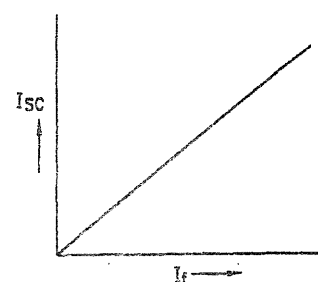

FIG. 4.66 : SHORT CIRCUIT CHARACTERISTIC
- Graph of short circuit current v /s field current is drawn which is called the short circuit characteristic (SCC). To find the regulation, both the OCC and SCC are drawn on the same sheet as shown in figure 4.66.